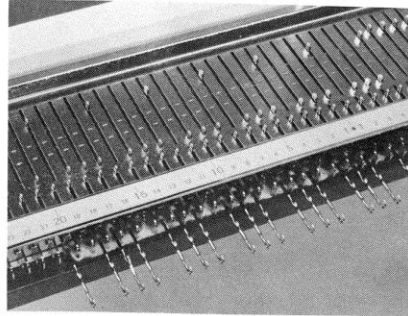

Fig.128
- b) Push back and align in position (B) all the needles which have already knit the stitches this row. The other needles which have not knit and placed in position (D) before commencement of this row should be brought forward into position (E), leaving still in position (B) those needles placed in this position at the start of the row. The yarn should run from inside needle in position (B) to the carriage feeder. (Fig.128)